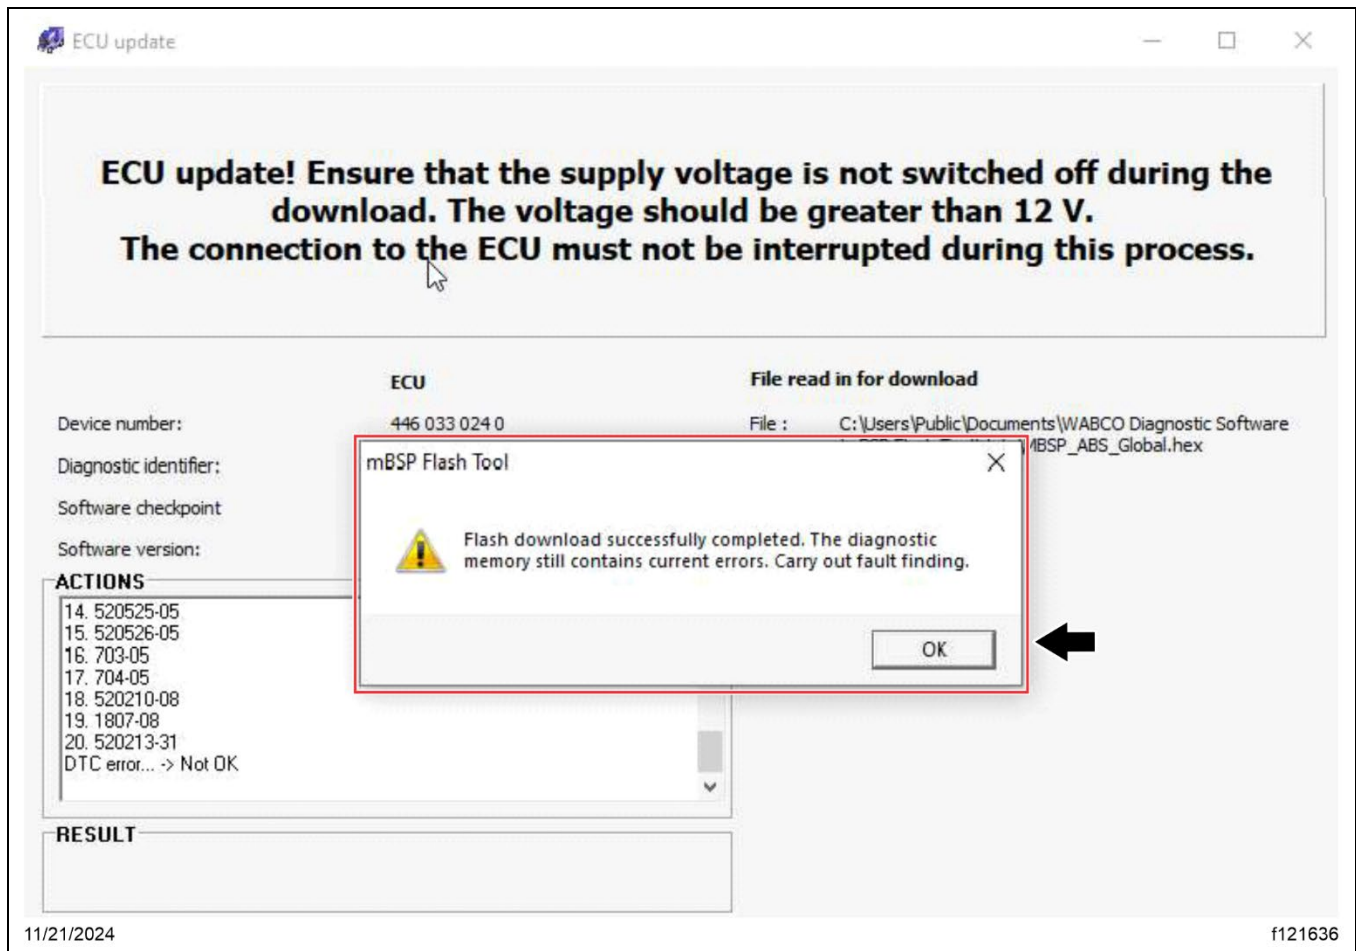

Fig. 57, ECU Update Successful
17. When the flash tool completes a successful ECU update, an error message is displayed advising that ABS fault codes will be present requiring an ESC Calibration procedure. Select 'OK' and close the flash tool application. In some cases, the flash tool may show an error message, lock up, or close unexpectedly. Follow the substeps to verify the flash tool update has been successfully written to the ABS ECU. See Fig. 57.